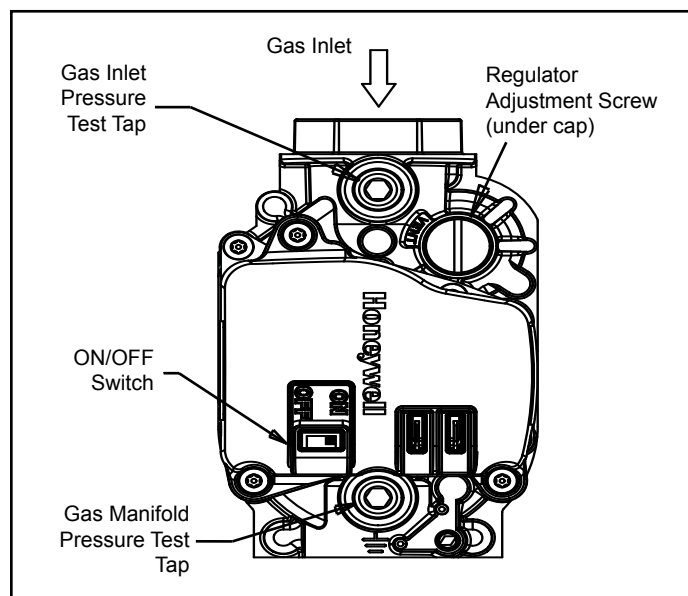

Figure 9. Gas Valve
3. Move the gas valve ON/OFF switch to the "ON" position (see Figure 9).
- Move the ON/OFF switch to the “OFF” position (see Figure 9).